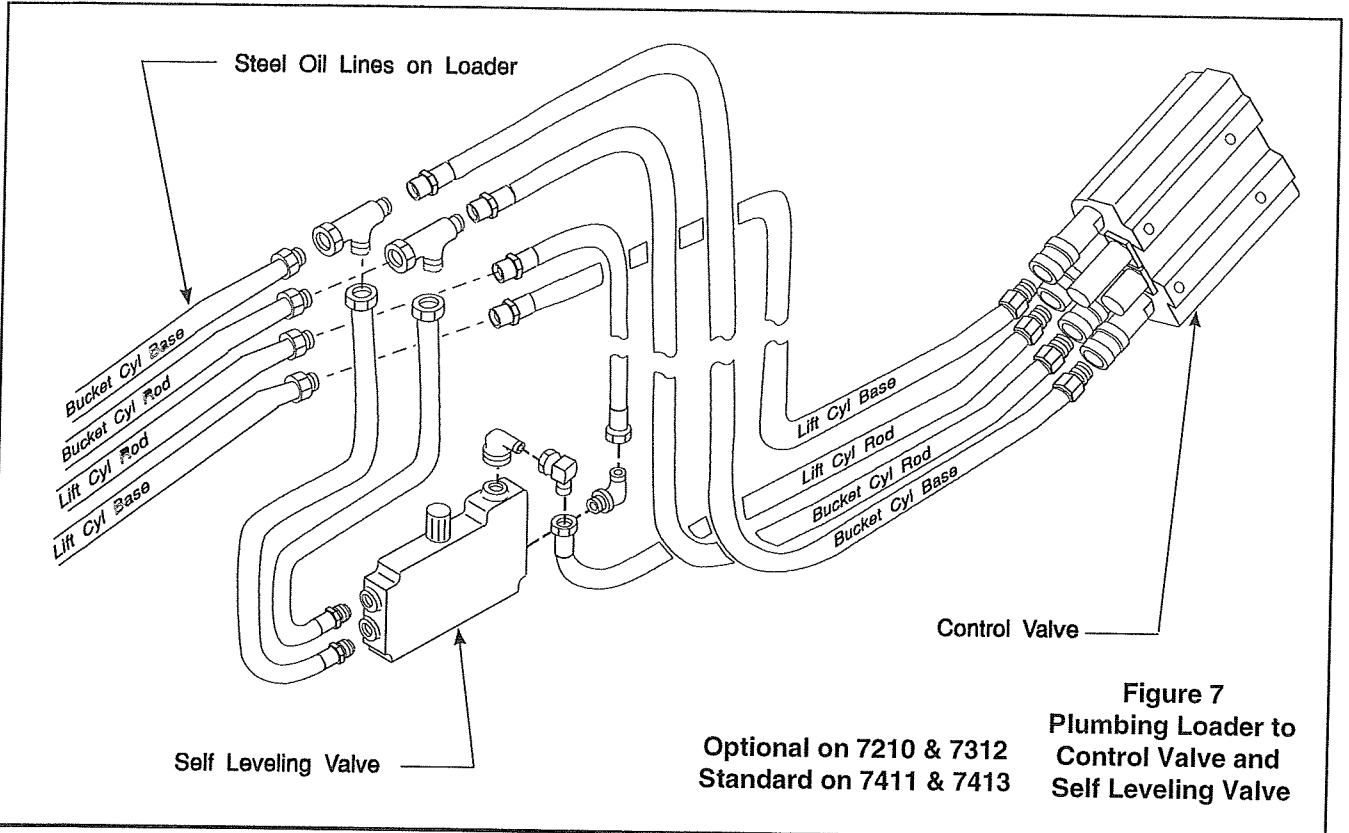

Figure 7
NOTE: For a simplified view of Plumbing Loader to Control Valve and Self Leveling Valve see Figures 7 & 8. Refer to Figure 9 for location of rubber straps (19) on a typical loader installation.
1. Install 1/2 x 120 hoses (18) onto boom oil line tubes. Install and tighten hose fittings one at a time from bottom up. Loosening closest oil line clamp will ease installation.
2. Install male quick couplers (17). Do not over tighten male couplers.